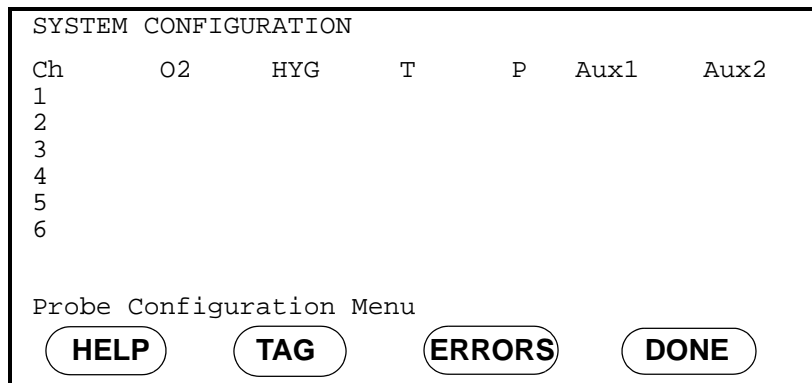

Figure 34: Probe Configuration Menu
1. Enter the Probe Configuration Menu. (See Figure 44 on page 64 for a menu map.) A screen similar to Figure 34 appears.